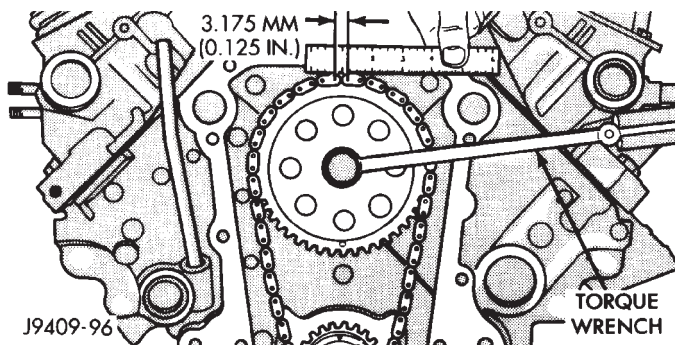

Fig. 6 Measuring Timing Chain Wear and Stretch
- Hold a scale with dimensional reading even with the edge of a chain link. With cylinder heads installed, apply 14 N·m (30 ft. lbs.) torque in the reverse direction. With the cylinder heads removed, apply 20 N·m (15 ft. lbs.) torque in the reverse direction. Note the amount of chain movement (Fig. 6).